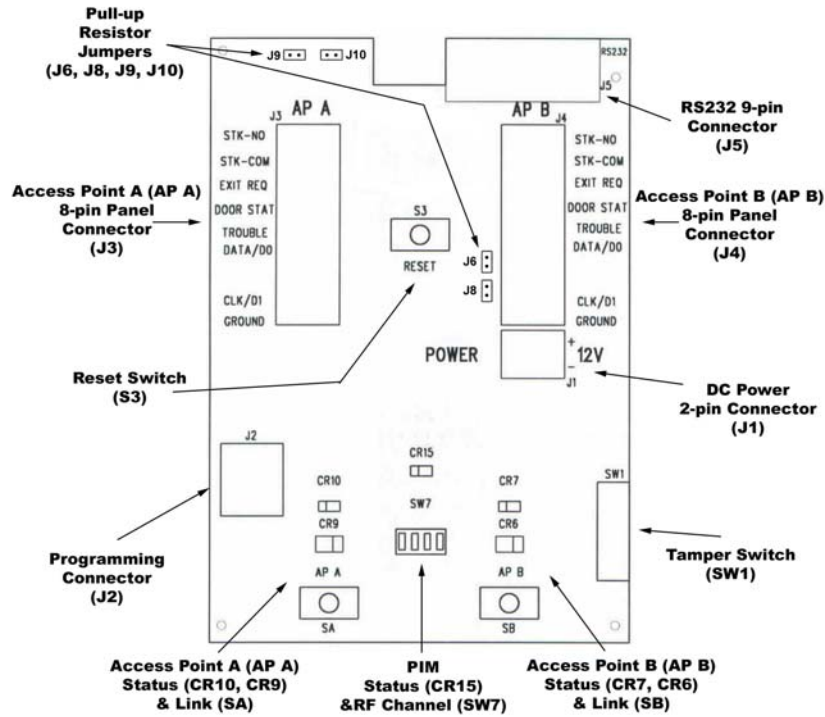
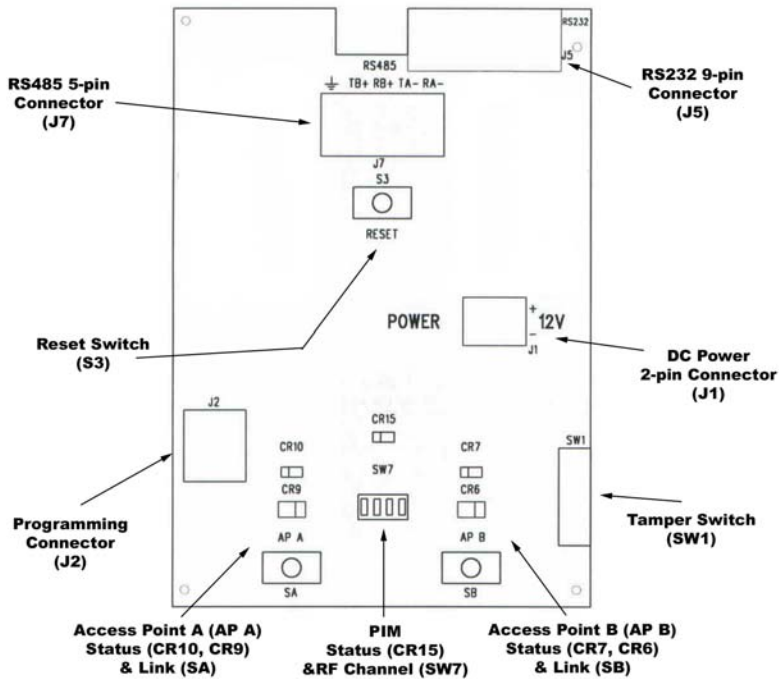

Figure 2-1 – PIM-TD2 & PIM-EXP Printed Circuit Board (PCB)
Figure 2-2 – PIM-485-OTD Printed Circuit Board (PCB)
There are two versions of the PIM printed circuit board (PCB): RS232 (Figure 2-1) and RS485 (Figure 2-2).
The version of PIM PCB being installed can be identified by observing which connectors are installed on the PCB. Compare the board being installed to Figure 2-1 and Figure 2-2.
2.1.1 PIM-TD2/TD4/EXP PCB (Figure 2-1)
2.1.2 PIM-485-OTD PCB (Figure 2-2)
In the United States version of Schlage Wireless Access products, one of fifteen RF channels can be set using DIP switch SW7 on the PIM (Figure 2-1 or Figure 2-2). Table 2-5 shows how to set the PIM's SW7 to select the desired RF channel:
When using the United States version of Schlage Wireless Access products in the dynamic channel switching mode, one of five RF channel groups can be set using DIP switch SW7 on the PIM (Figure 2-1 or Figure 2-2). Table 2-6 shows how to set the PIM's SW7 switches to select the desired RF channel:
When using the Australian version of Schlage Wireless Access products in the non dynamic channel switching mode, one of seven RF channels can be set using DIP switch SW7 on the PIM (Figure 2-1 or Figure 2-2). Table 2-7 shows how to set the PIM's SW7 switches to select the desired RF channel: